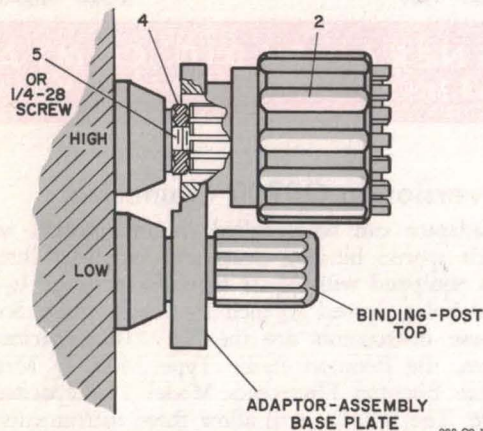

Figure 2. Conversion of binding posts to GR900 connector.
The 900-Q9 Adaptor can be assembled and installed as shown in Figures 2 and 3. Refer to the following paragraphs for recommended procedures.
- c. Snap adaptor assembly (2) in place over nut (4) as shown in Figure 2. The LOW post should be in the elongated hole in the adaptor base plate.